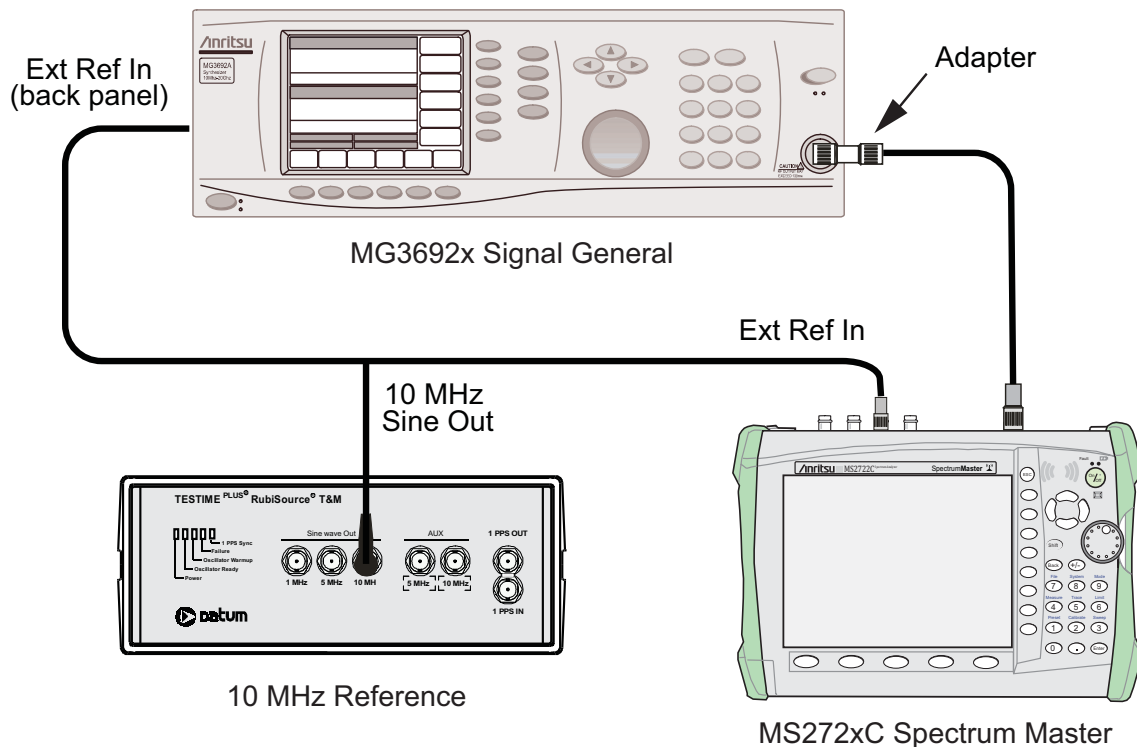

Figure 2-1. Resolution Bandwidth Accuracy Test Setup
1. Connect the external 10 MHz Reference both to the MG3692x or MG3695C Synthesized Signal Generator and to the Spectrum Master MS272xC, as shown in Figure 2-1.
2. Set the MS272xC to Spectrum Analyzer mode and then Preset the instrument. Press the **Shift** key, the **Sweep** (3) key, Sweep Mode submenu key and then the Performance submenu key.
8. Under the **Measure** menu, press (**Shift** (4), press OCC BW and set it to On.